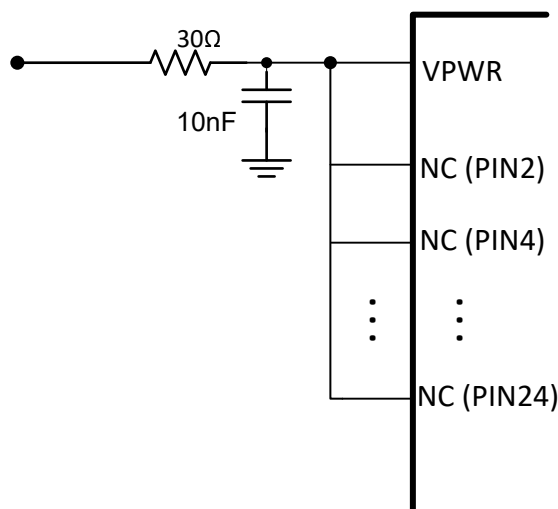

图 9-8. NC Pins Tied to VPWR
- Short unused NC pins between 2 and 24 (including 2, 24) to VPWR as shown in 图 9-8.
All NC pins between pin 1 and Pin 25 need to be tied to VPWR as shown in 图 9-8.